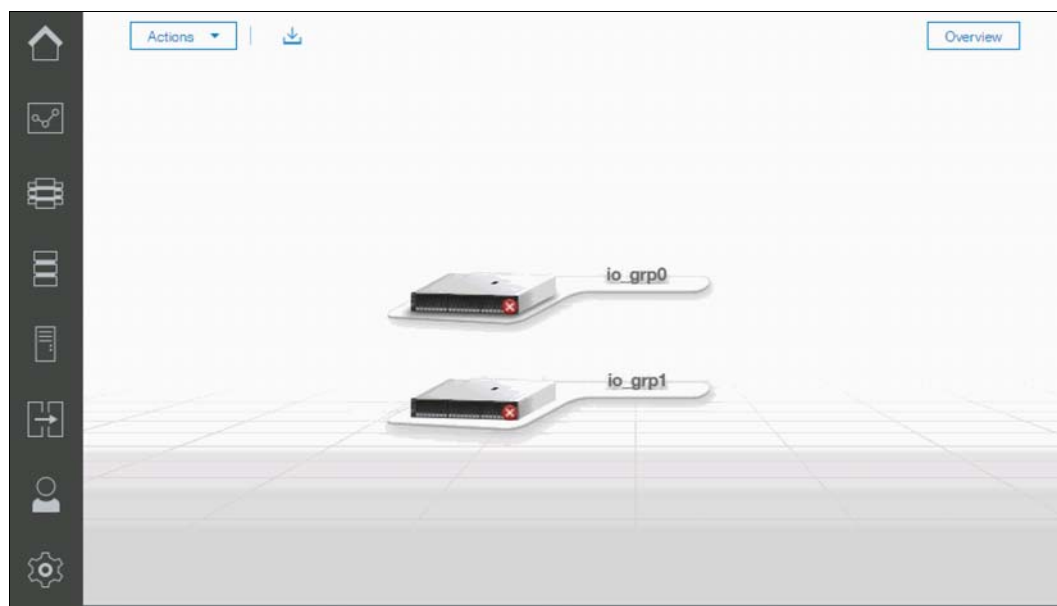

Figure 2-43 Lenovo Storage V Series GUI with two I/O groups
6. After the wizard completes the addition of the new control enclosure, the Lenovo Storage V3700 V2, V3700 V2 XP, and V5030 show the management GUI that contains two I/O groups, as shown in Figure 2-43.